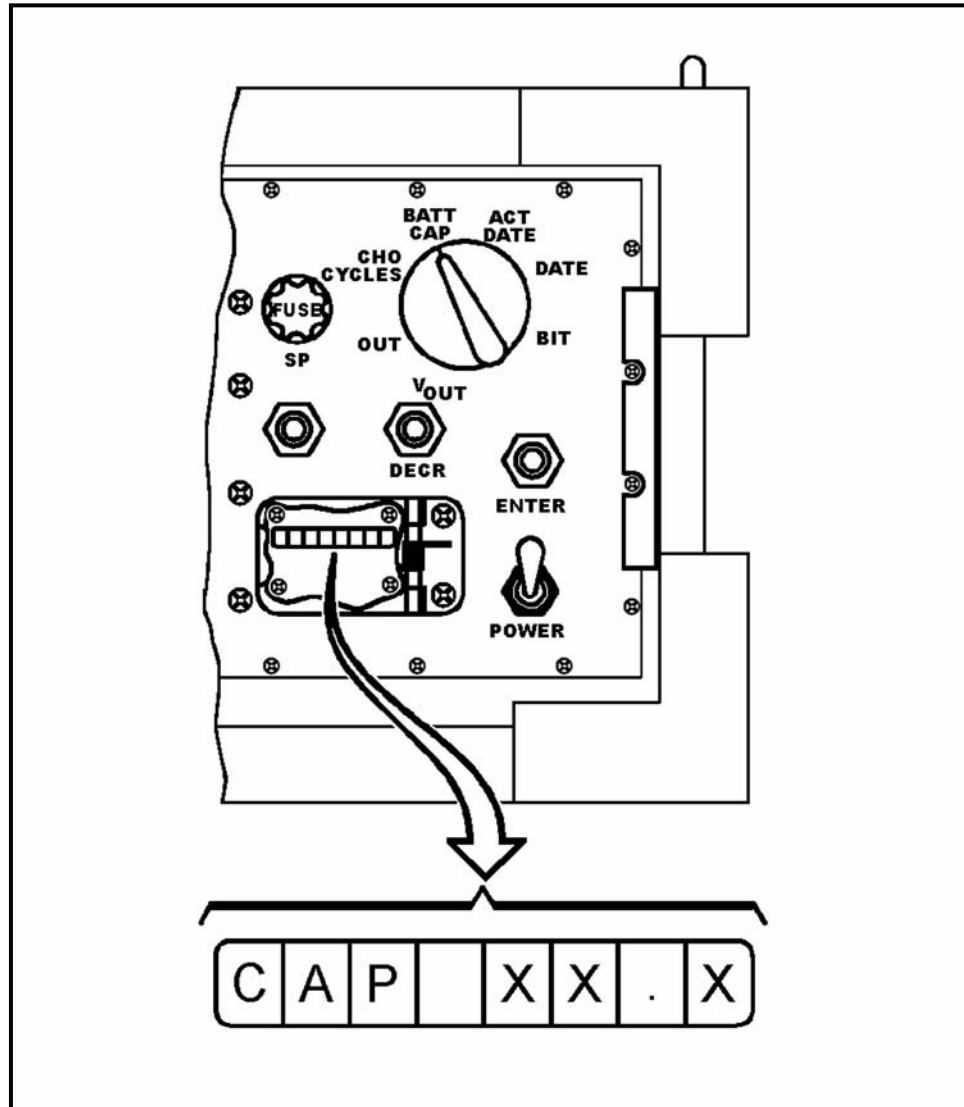

Figure E-1. BPS capacity.
c. **CHECK BPS OUTPUT.** This message appears when the BPS loses communication with the TAS. The messages BPS INTERNAL and CHARGE BPS NOW cannot be provided to alert the gunner to charge the BPS. To correct, the gunner checks the battery capacity periodically on the BPS Display by turning the function switch to BATT CAP, opening the BPS display door, and reading the BPS display (Figure E-1).